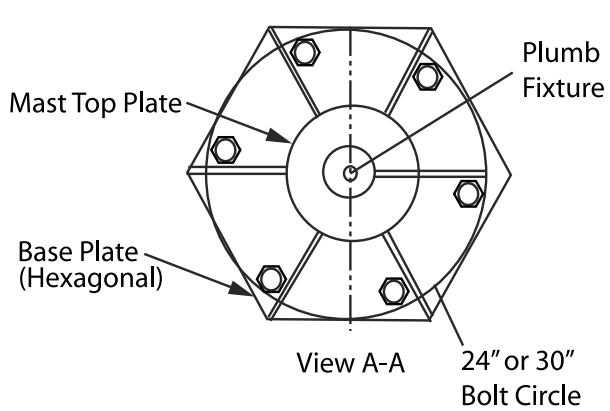

Figure 1A
1. After installing the recommended concrete (3,000 PSI) foundation, reinforcement, and anchor bolts (minimum 1 inch diameter), refer to the dimension sheet of your specific model jib crane (**Pages 11-12 and Figures 1A or 1B and 2**).